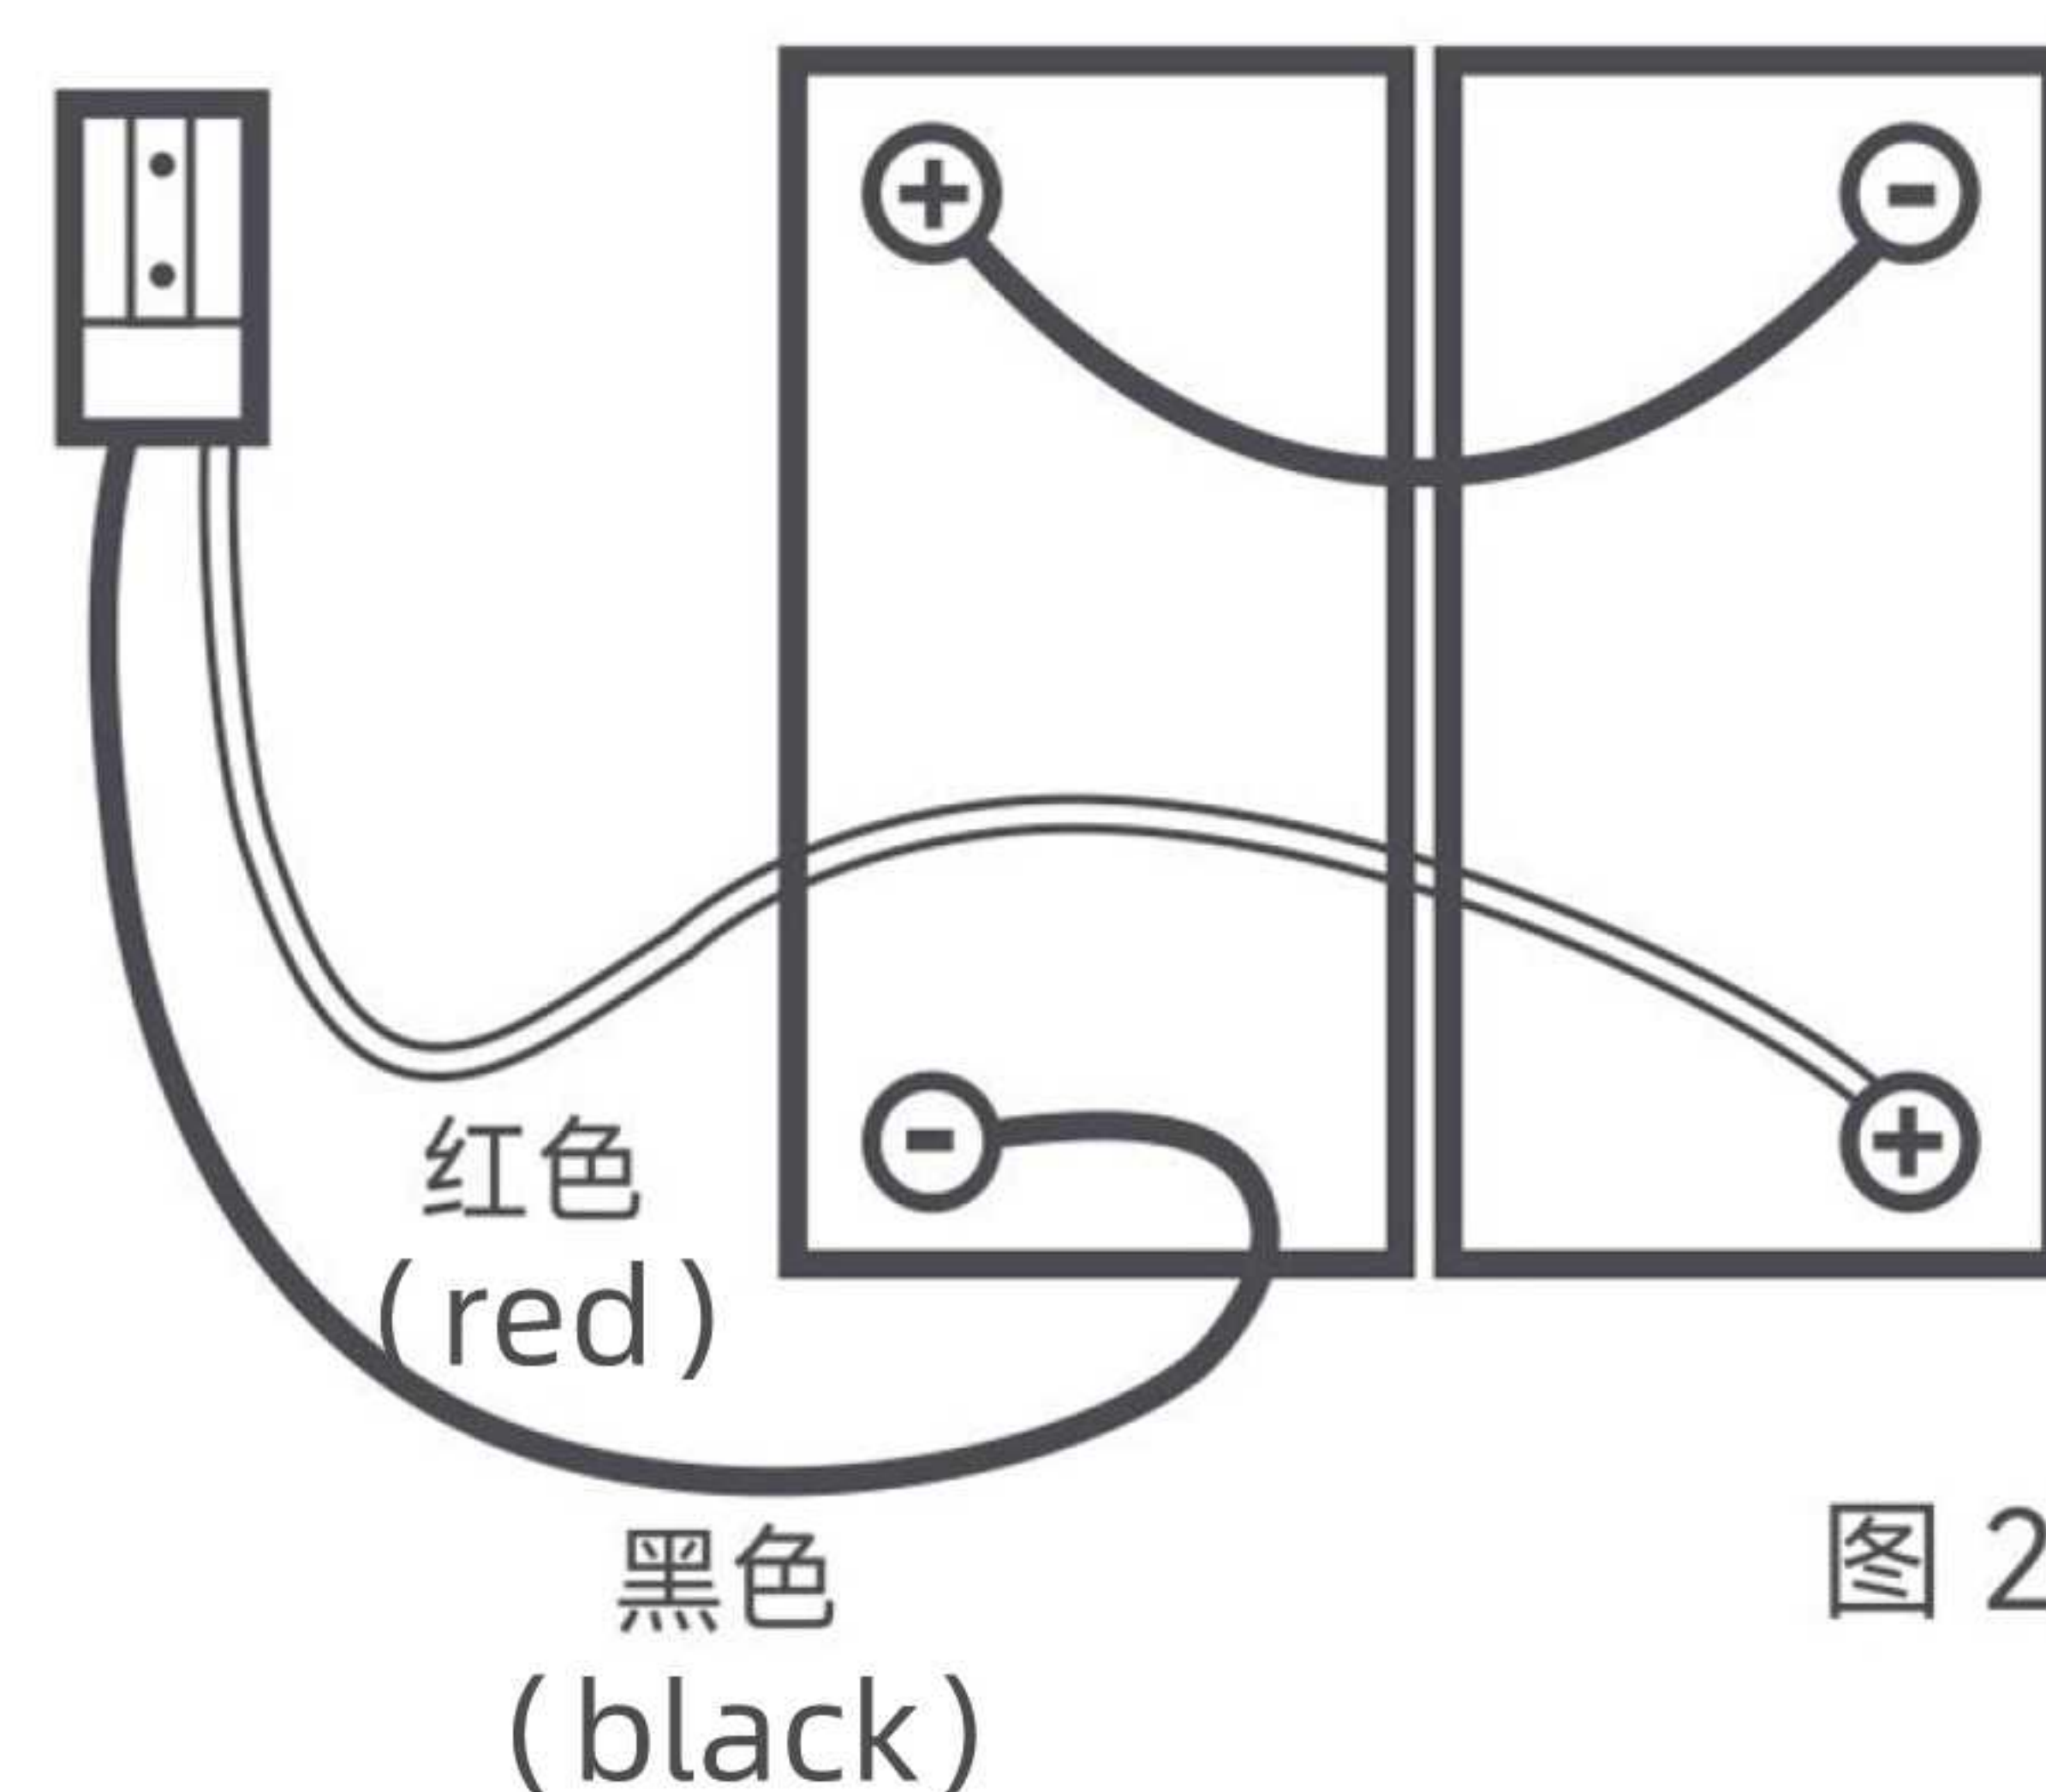

图 2
5. 按照（图 2）接线 – 红色线缆接正极（+），黑色线缆接负极（-），确保接头牢固。
Connect the wires as shown in Figure 2 – the red cable is connected to the positive pole (+), and the black cable is connected to the negative pole (-), ensuring the connectors are firm.